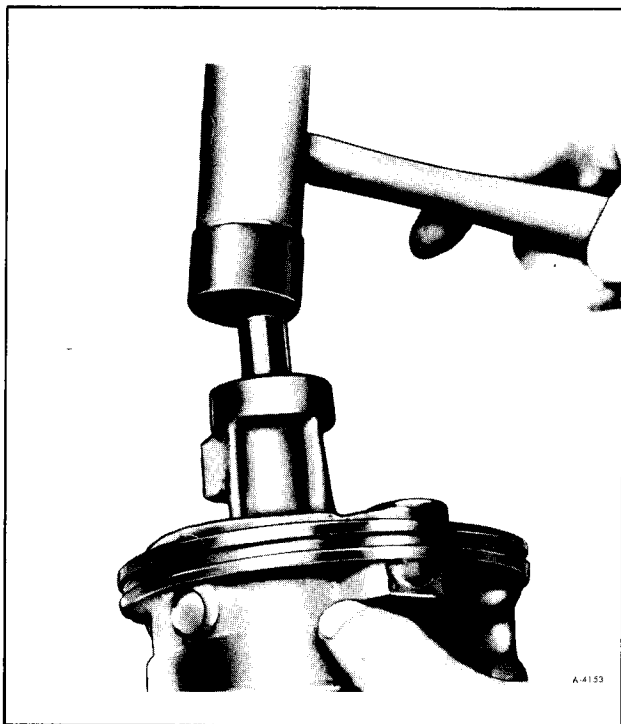

Figure 14—Tapping Shaft to Unseat Pressure Plate
9. With end cover "O" ring and shaft key removed, tap very lightly on end of shaft, only until pressure plate falls free. (figure 14).